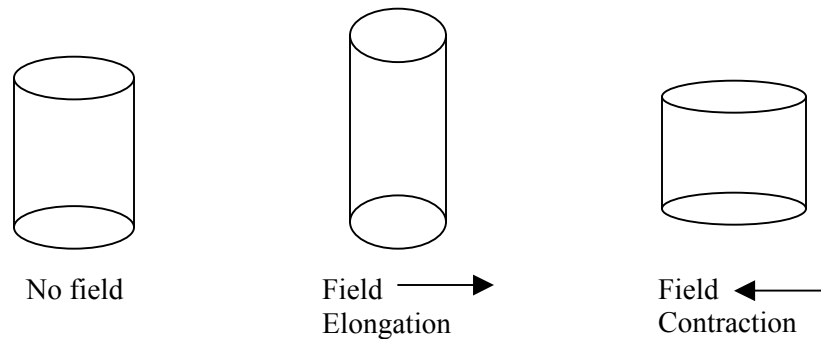

Fig. 2.1 Principle of piezo movement
- When an electric field is applied to piezoelectric materials they elongate or contract depending on the direction of the field. It is illustrated in Fig. 2.1 below: